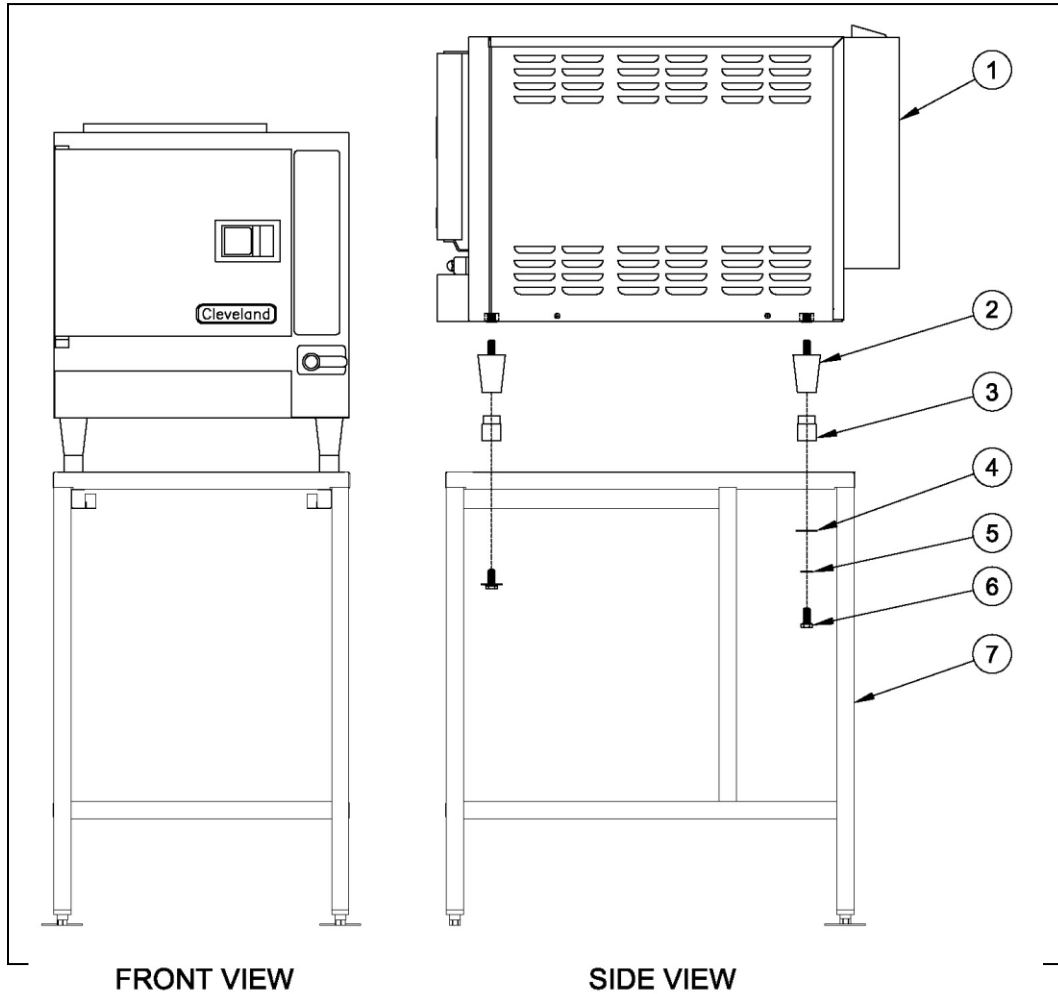

Figure 9
6. Secure steamer to stand using Kit P/N 111895 in Figure 9 on Page 10.